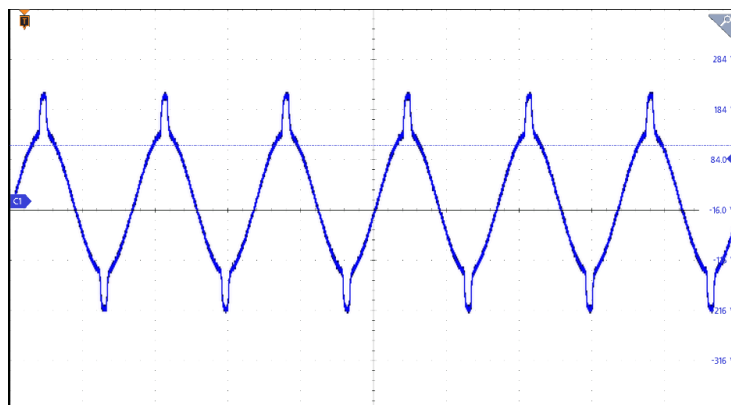

Figure 5-38 Transient Waveform Mode Setting Page (Example Output Waveform for Phase 1 – Surge)
6. After setting the parameters, tap the Home key , then tap  to trigger the output. The output waveform is shown in Figure 5-38.